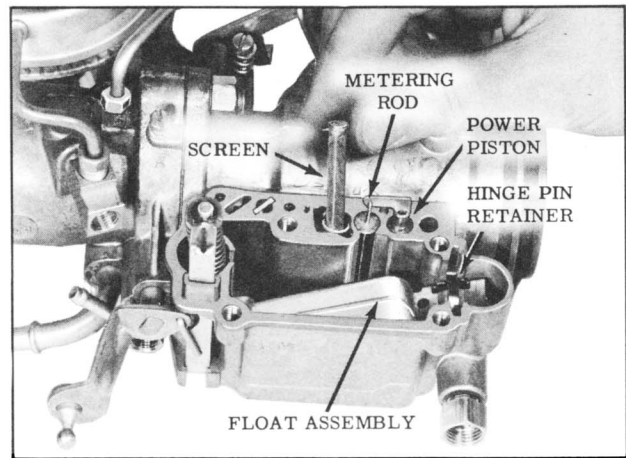

Fig. 8-128 Throttle Return Check Adjustment
15. Adjust the throttle return check to .050" with the fast idle screw positioned on the high step of the fast idle screw. (Fig. 8-128)